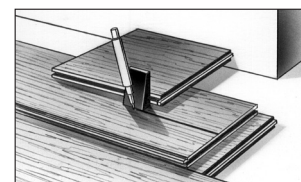

Figure 12
- Place the row of planks to be fit on top of the last row of installed planks. Use a divider or a piece of the plank as a scribe to trace the contour of the wall (Fig. 12).